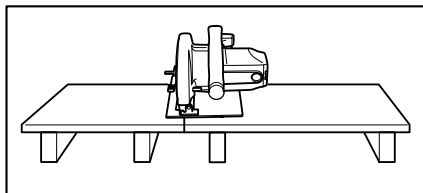

Fig. 1 To avoid kickback, do support board or panel near the cut.
**Support large panels to minimize the risk of blade pinching and KICKBACK.** Large panels tend to sag under their own weight. Supports must be placed under the panel on both sides, near the line of cut and near the edge of the panel as shown in Fig. 1.